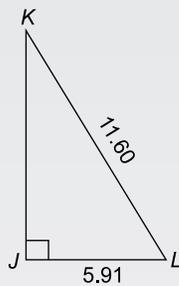

Figure RT1.1
- In triangle  $JKL$  in Figure RT1.1, find